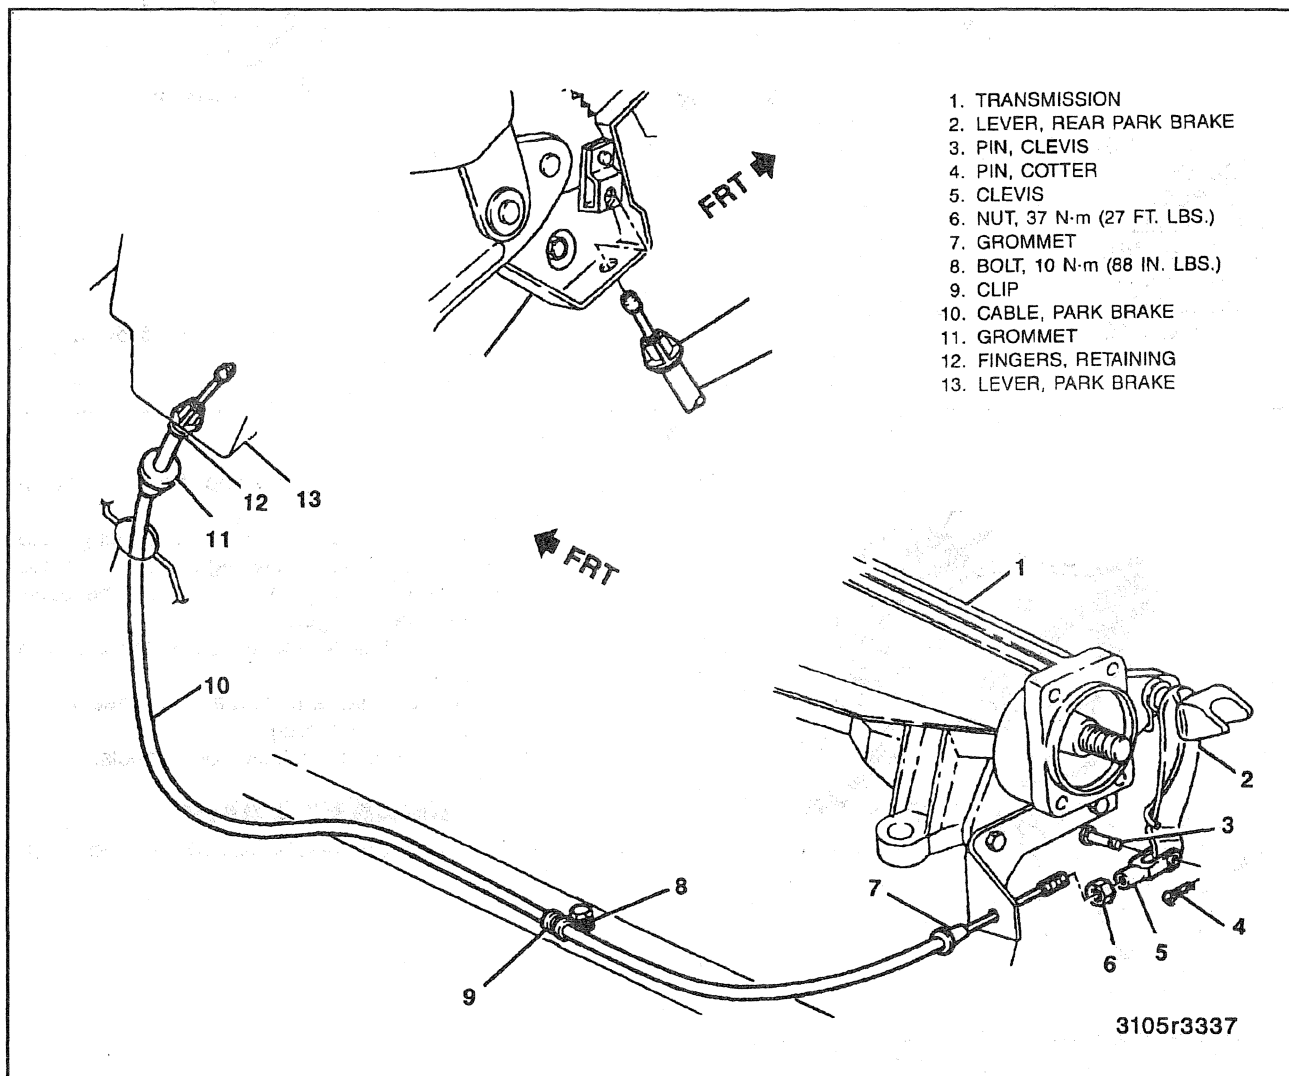

Figure 5—Parking Brake Cable
Remove or Disconnect (Figure 5)
Install or Connect (Figure 5)
1. Remove clevis pin (3) from lever (2) (figure 5).